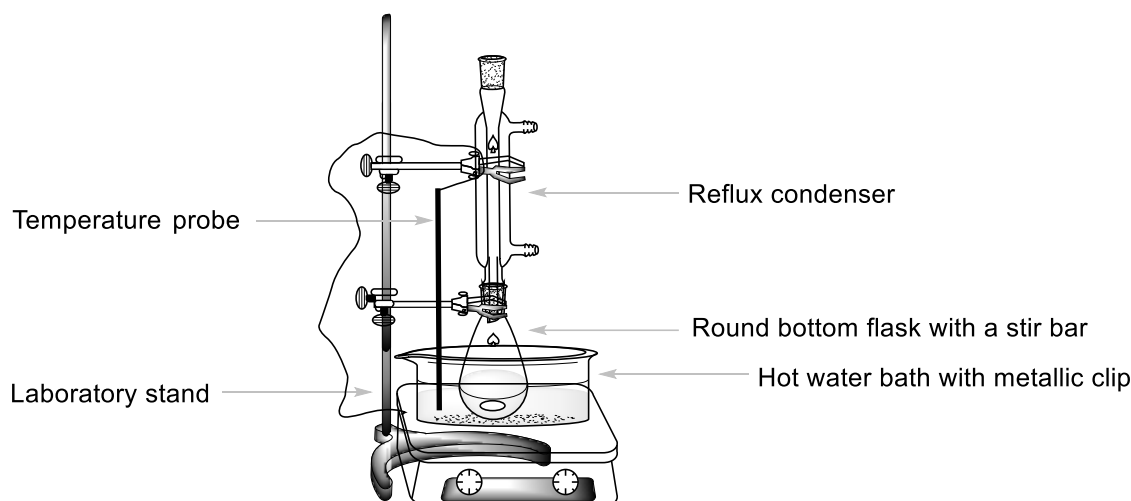

Figure 1. Setup for heating the reaction mixture in a water bath.
3. Place the round bottom flask into the hot water bath. Attach an air reflux condenser (water connection is not needed) and secure it in the upper part by a loosely attached large clamp, as shown in Figure 1. Let compound **A** dissolve with stirring.
Preheat the water bath to 80 °C. Insert a magnetic stir bar into the 50 cm³ ground-joint Erlenmeyer flask containing the organic phase **O2** from step II.6 and add 0.300 g of 2,4-dinitrophenylhydrazine (**DNPH**). In a graduated cylinder, measure 10 cm³ of ethanol. Using a glass Pasteur pipette, rinse the glass vial with 5 × 2 cm³ of ethanol to transfer all of the **DNPH** into the Erlenmeyer flask. Place the Erlenmeyer flask into the hot water bath, attach a reflux condenser (similar setup as in Figure 1) rinsed with ethanol. Through the top opening of the condenser, add 3 cm³ of 20% HCl using a funnel and stir the reaction mixture at 80 °C for 2 minutes. Fine orange crystals of product **C** start to form. Then turn off the heating of the hotplate stirrer. Lift the reaction flask above the water bath. (*Caution!* Touch only the clamps, the flask is hot.) Allow the reaction mixture to cool down for 15 min and then place it into a cold water bath (prepared by pouring cold tap water in a 150 cm³ beaker).